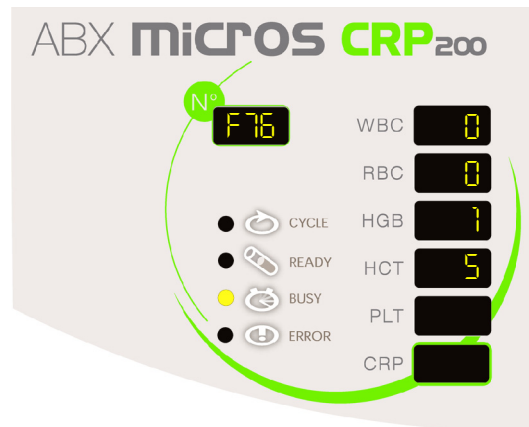

Fig.1: Display
- ◆ Enter 15 burn-in cycles (1 in HGB display and 5 in HCT display) press Enter to exit function (See "Fig.1: Display, page 3").